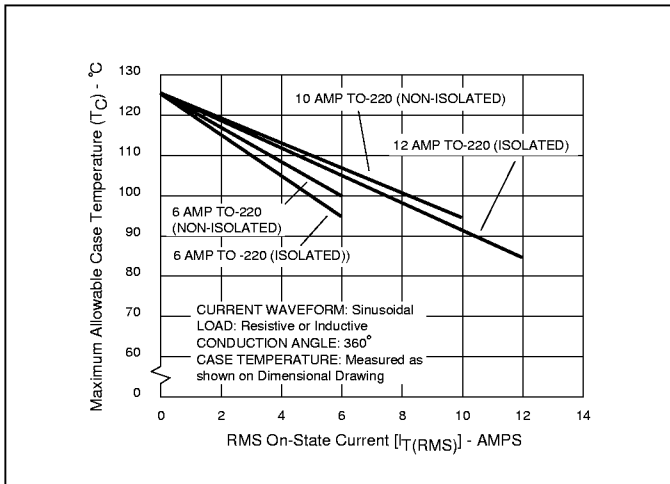
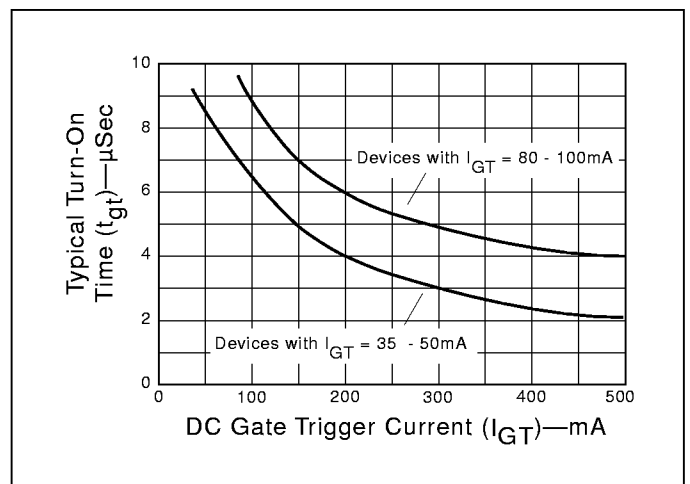

Figure 4.1 Maximum Allowable Case Temperature vs On-State Current (6-12 Amp Devices)
Figure 4.12 Turn-On Time vs Gate Trigger Current (Typical)
- (1) For either polarity of MT2 with reference to MT1 terminal.
- (2) For either polarity of gate voltage (V_{GT}) with reference to MT1 terminal.
- (3) See Definition of Quadrants.
- (4) See Figures 4.1 through 4.4 for current rating at specific operating temperature.
- (10) See Figure 4.12 for t_{gt} vs I_{GT} .
- (11) See package outlines for lead form configurations. When ordering special lead forming, add type number as suffix to part number.
- (12) Initial on-state current = 400 mA(DC) for 15-40A devices and 100mA for 6-12 Amp devices.
- (13) See Figures 4.1 through 4.4 for maximum allowable case temperature at maximum rated current.
- (14) Pulse width $\leq 10\mu s$.
- (15) For 6-12 Amp devices, $R_L = 60\Omega$; 15 Amp and above, $R_L = 30\Omega$.
- (16) 40 Amp pin terminal leads on K package can run 100°C to 125°C.
- (17) Alternistor does not turn on in Quadrant IV.
- (18) $T_C = T_J$ for test conditions in off-state
- (19) $I_{GT} = 200$ mA for 6-12 Amp devices and 500 mA for 15-40 Amp devices with gate pulse having rise time of ≤ 0.1 microsecond.